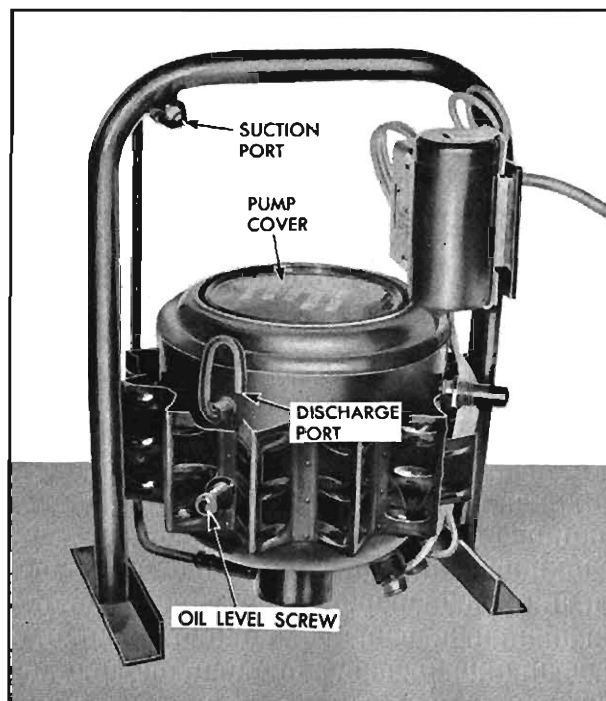

Fig. 11-11—Vacuum Pump
Vacuum pump, Tool J-5428, (fig. 11-11) is available for this purpose and its use is described under "Service Operations." The following precautions should be observed relative to the operation and maintenance of this pump.
- Check oil level frequently. Oil level should be up to the oil level screw on the side of the vacuum pump (fig. 11-11). Do not maintain fluid above this level as the pump will not operate properly.